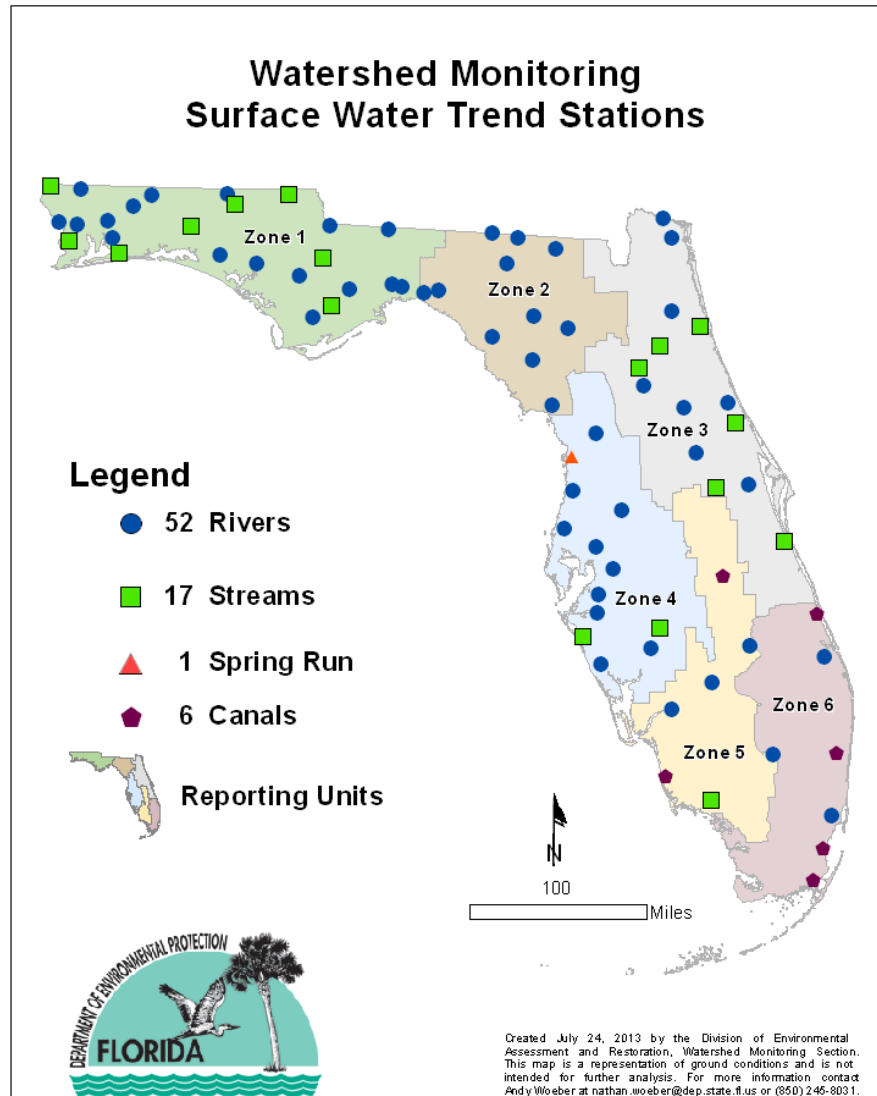
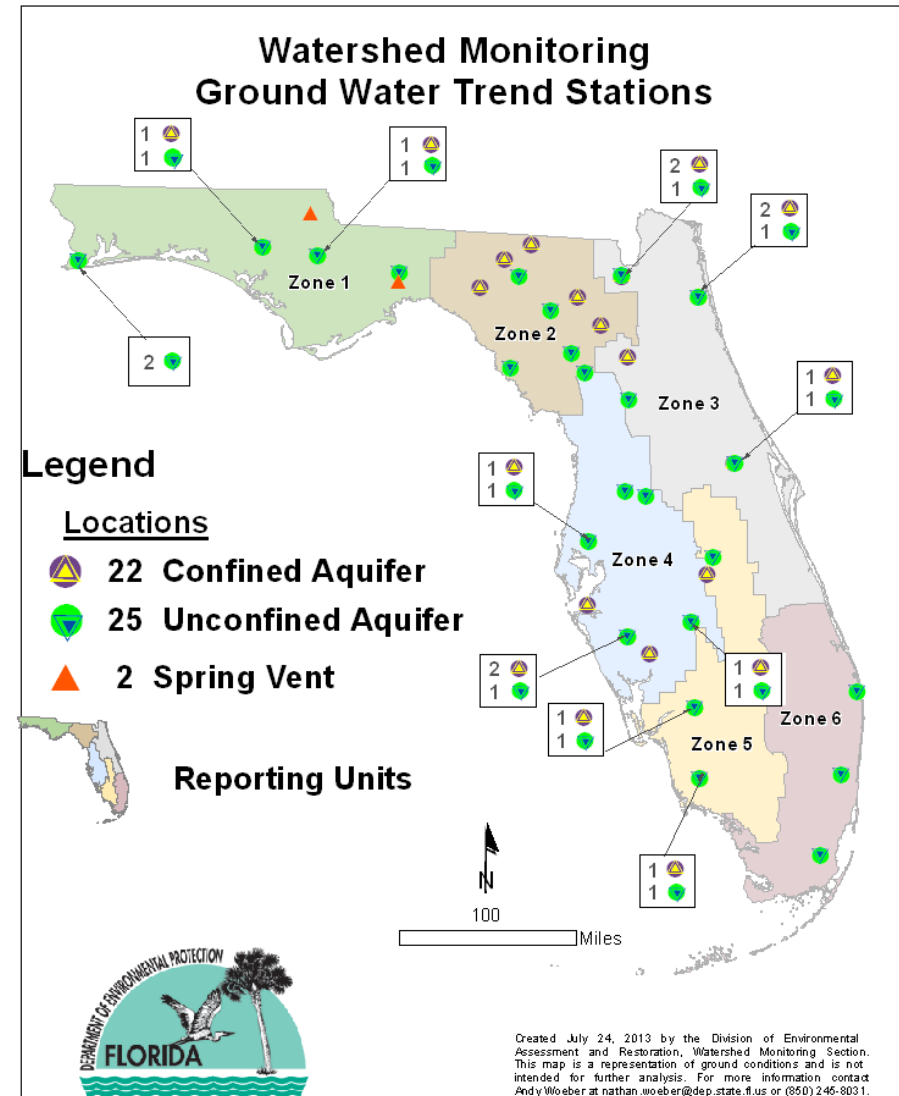

Figure 3. Map of SW Trend stations.
Figure 4. Map of GW Trend stations.
Description: The Trend Network consists of 125 fixed sites located throughout the state (76 SW sites and 49 GW sites). Surface Water Trend (ST) sampling is funded by Section 604 of the Federal Clean Water Act; Ground Water Trend (GT) sampling is funded by the State Water Quality Assurance Trust Fund. See Figure 3 and Figure 4 for the locations of Trend stations.
Number of Samples: The number of SW and GW Trend sites depends on the zone, as shown in Figure 3 and Figure 4. SW Trend sampling occurs at 6 to 25 sites and GW Trend sampling occurs at 3 to 11 sites, depending on the zone.